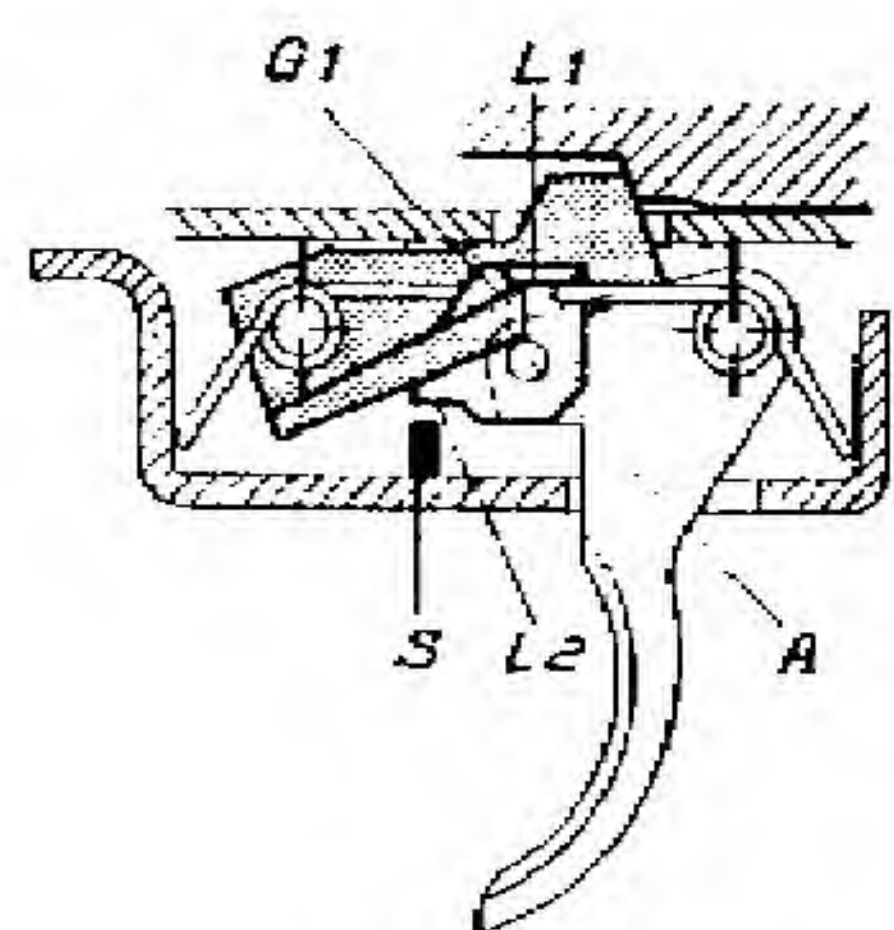

Fig. 11.
The fore arm of the change lever (S) is then positioned below the front shoulder (L 2) of the intermediate lever (fig. 11).
At the same time, the intermediate lever depresses the sear by the action of the lever ramps (L 1) on the shoulders (G 1) of the sear (fig. 11).